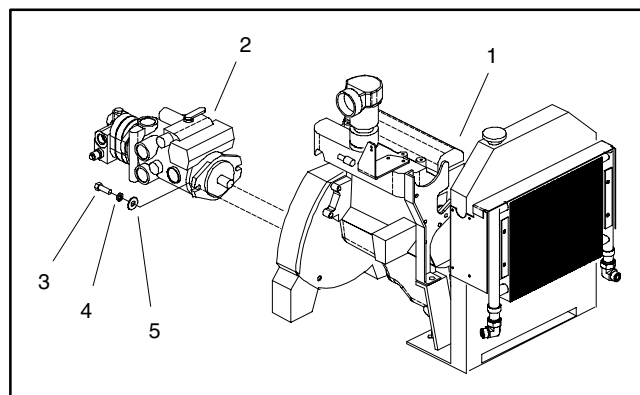

Figure 30
9. Support the pump assembly to prevent it from falling. Remove two (2) cap screws, lock washers and flat washers that retain pump assembly to engine bell housing (Fig. 30).